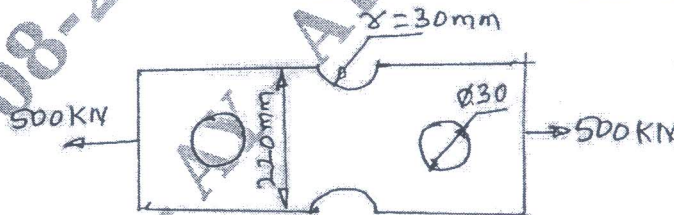

Fig.Q2(c)
- c. A bar of rectangular cross section is subjected to an axial pull of 500 kN as shown in Fig.Q2(c). Calculate its thickness if the allowable tensile stress in the bar is 200 MPa.